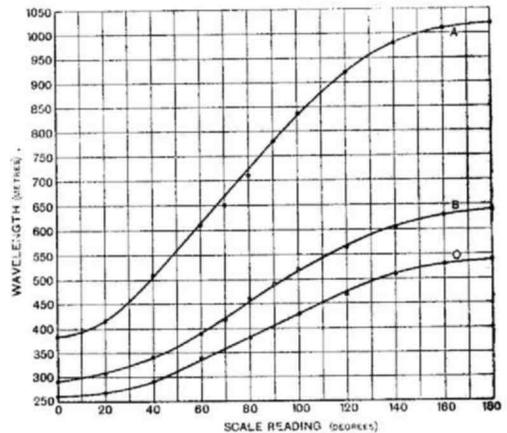

Fig. 1. Tuning curves of the Acme Variometer.
The curves of Fig. 1 show the range of wavelengths over which a normal (100 ft.) aerial may be tuned when (A), a fixed condenser of 0.0004 microfarads is connected across the variometer; (B) when used alone; and (C), when a 0.0004  $\mu$ F condenser is connected in series. It may be seen from the curves that an inductance range of 6 to 1 is obtained.